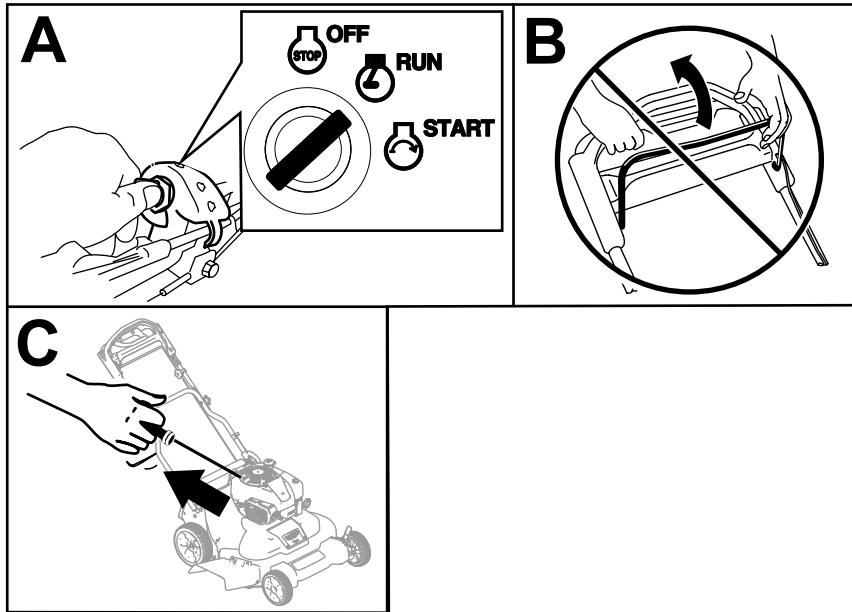

Figure 16
1. Turn the ignition key to the RUN position (A of Figure 16).
**Important:** Do not attempt to start the engine with the blade-control bar engaged; otherwise, you may blow the fuse (B of Figure 16).
2. Pull the recoil handle slowly to the rear until you feel resistance, then pull sharply (C of Figure 16). Allow the rope to return to the engine slowly.